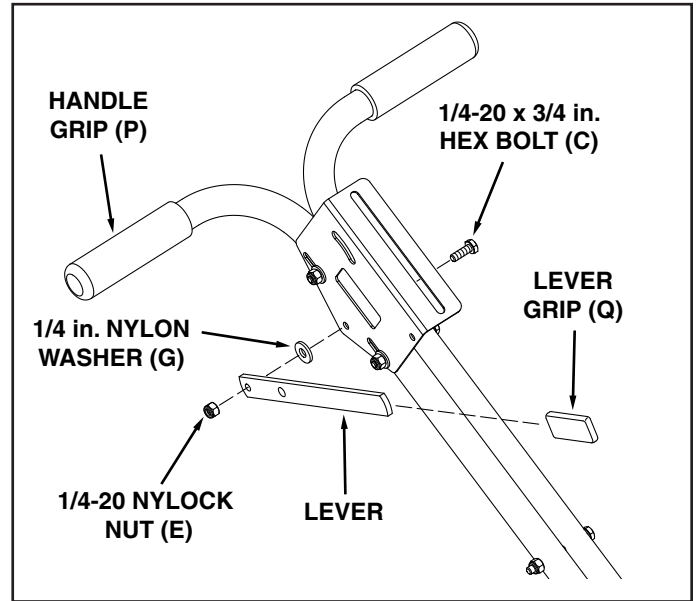

FIGURE 6
9. Install a handle grip on each handle. See figure 6.
10. Attach the flow control lever to the bracket using one 1/4 x 3/4 in. bolt, nylon washer and nylock nut. Tighten carefully to allow the lever to move freely. Install the vinyl grip. See figure 6.